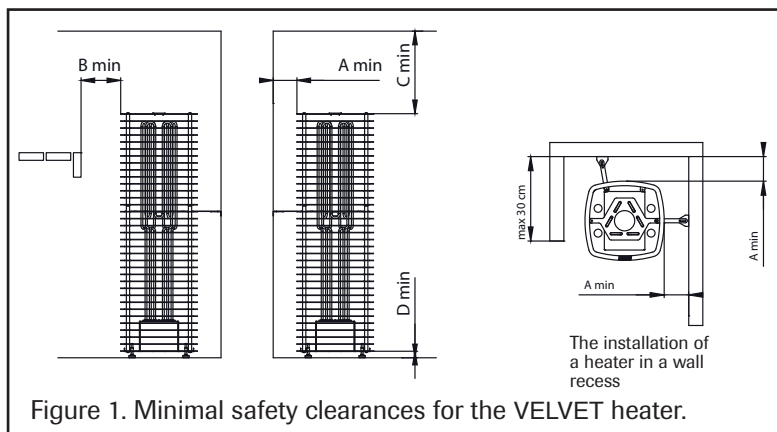

Figure 1. Minimal safety clearances for the VELVET heater.
**) See figure 1
- The heater can also be installed into a wall recess, see figure 1.